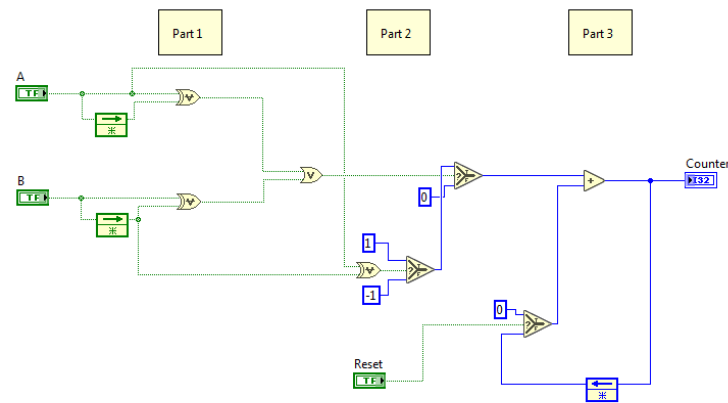

Figure 2.4: Modified Quadrature Decoding with direction sensing and reset
2. Modify the Sub-VI with bidirectional sensing as shown in Figure 2.4. The addition in Part 3 allows the user to programmatically reset encoder counts back to 0, which aids calibration. Run `Reading Encoders.vi`. Does the reset button works as expected?